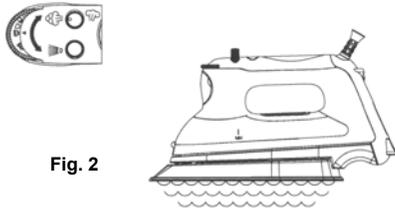

Fig. 2
- Place the iron on its heel on a stable, protected surface and allow the iron to heat for approximately two (2) minutes or until the temperature settings on the right side of the LED display panel have stopped flashing.
- Turn the variable steam control dial to the right to increase the amount of steam. When using extra steam, the iron uses more water and it may be necessary to fill the water tank more often. (Fig. 2)